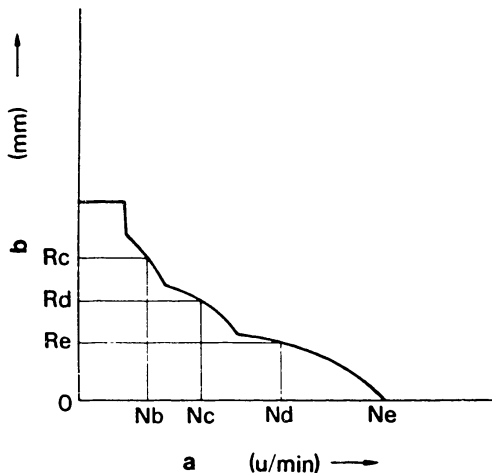

Fig. 145
- 4) Increase the pump speed until the control rack position is at  $R_e$  mm, and then check that the pump speed is  $N_d$  rpm. (Fig. 145)